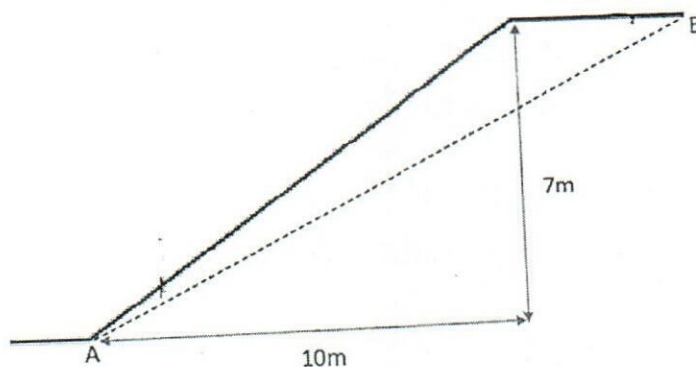

Figure 1
- This paper consists of Three (03) questions. Answer **all three** questions.
- a) **Figure 1** given below shows details of an embankment made of cohesionless soil with $\phi = 34^\circ$ and the unit weight of the soil is 18 kN/m^3 .